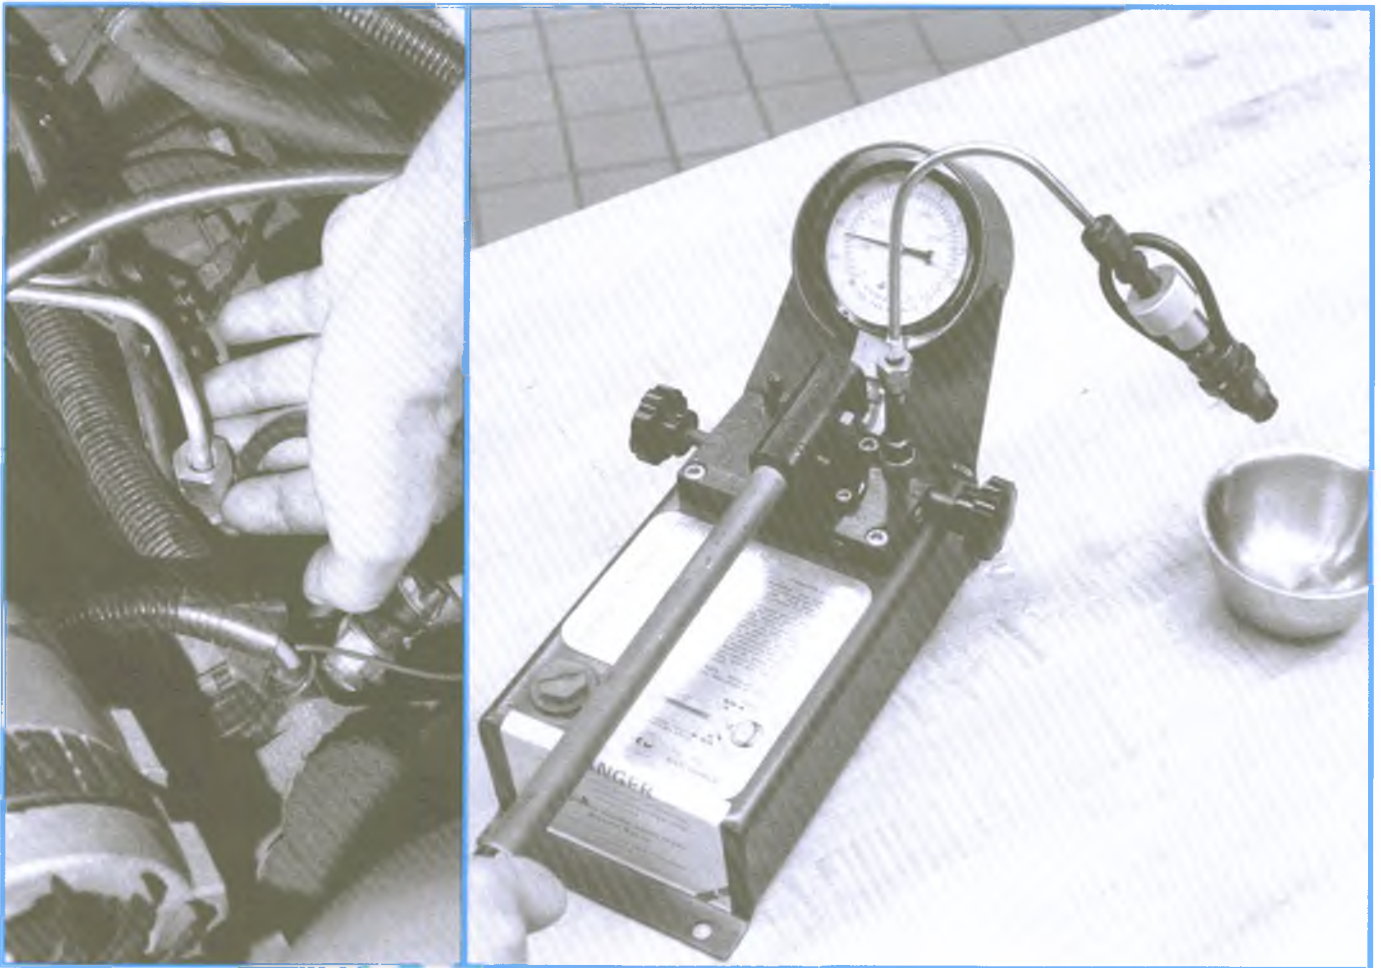

Figure 7-50, Injection Line and Nozzle Checks
6. Check the operation of the injection lines and nozzles (refer to Figure 7-50):